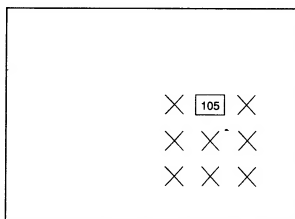

fig. 14
- Adjust value on the picture to 105 (fig. 14).